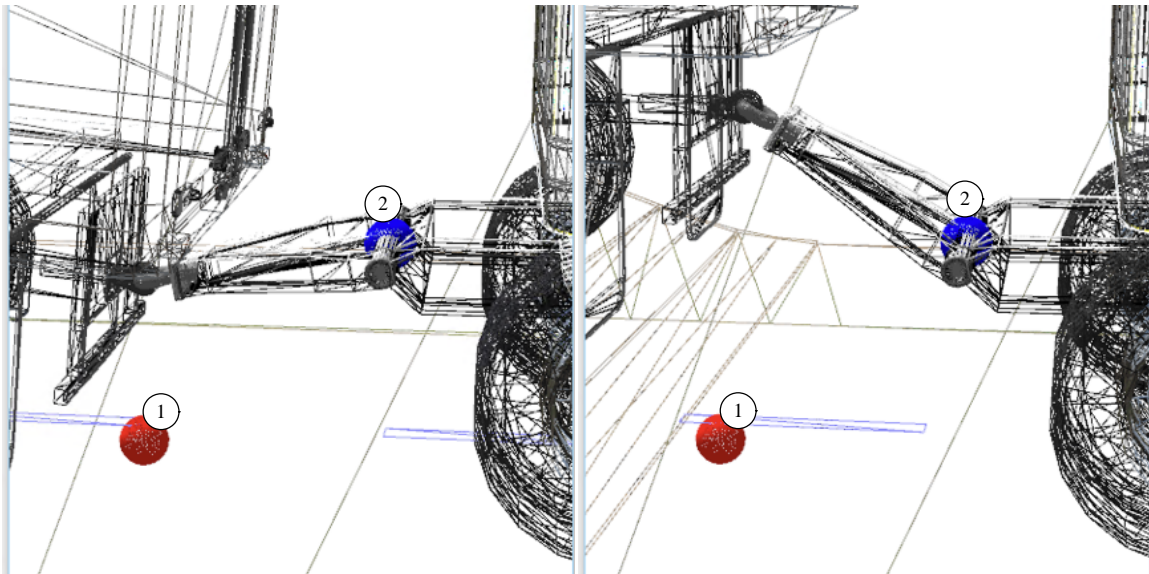
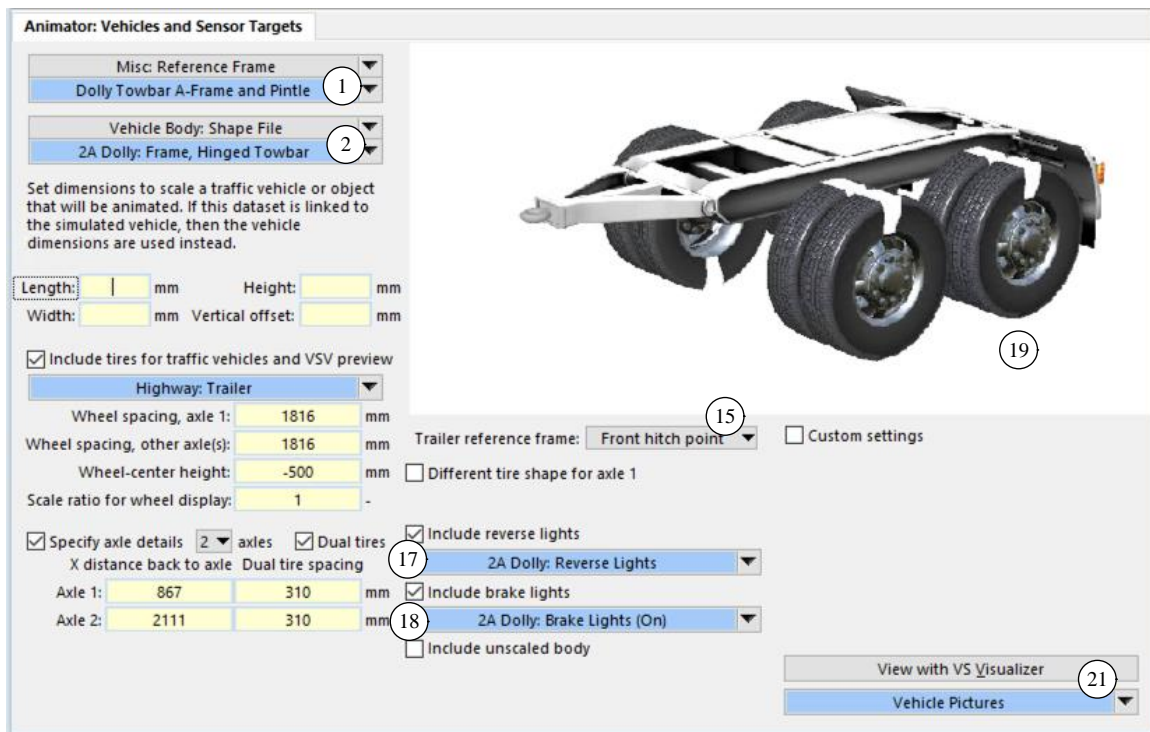

Figure 7. The sprung mass coordinate system origin and the front fixed hitch point for a dolly with a hinged tow bar.
Figure 8. Settings for the example dolly with hinged tow bar.
In this example, the origin of the trailer (dolly) sprung mass coordinate system is not suitable for animating the tow bar. Figure 7 shows images from two instants within the same run, using the wireframe visualization mode to better show two points of interest for the dolly; the red sphere ① is at the origin of the sprung mass coordinate system and the blue sphere ② is at the fixed hitch point on the hinge where the tow bar connects to the trailer frame. The hitch point is fixed in both the tow bar and the dolly frame, which means it can be used to locate both the tow bar and the dolly frame. Its location in the dolly frame is often better suited for connecting with an animation shape.
Figure 8 shows the dataset used for the dolly that appears in Figure 6 and Figure 7. The controls in the figure that are numbered are noted below.
- (15) The drop-down control is used to specify that trailer reference frames will be defined using the front hitch point ((2) in Figure 7), rather than the sprung mass coordinate system origin ((1) in Figure 7).
Going back to Figure 8, the three linked animator shapes (2) (sprung mass body), (17) (reverse lights), and (18) (brake lights) were all set up using the fixed hitch point as a reference, to be compatible with the specification from the drop-down control (15).